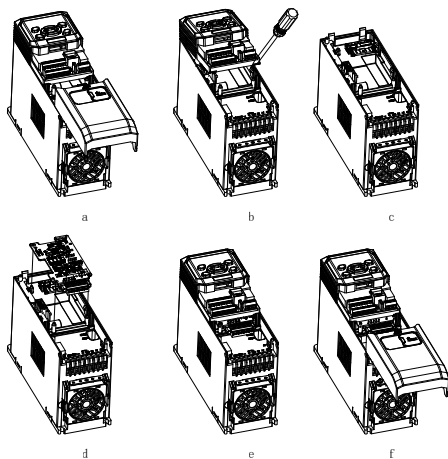

Figure 2-3 Steps of the PG card installation on Position 1
- (1) Make sure the drive is in the power off state. Press the granulated area on the middle-upper part of the lower cover, slide it down with proper force till the cover is taken off from the drive, as shown in Figure 2-3-a.
- (2) Use a small-size straight screwdriver to pry open the two spring snaps that connect the bottom of the operating panel with the drive, and take off the operating panel, as shown in Figure 2-3-b and Figure 2-3-c.
- (3) Mount the PG card: hold the card with the terminal block pointing downward, align the three location holes with the location columns on the drive, and press the PG card downward with proper force to secure it by buckling the four spring snaps, as shown in Figure 2-3-d.
- (4) Align the spring snaps of the operating panel, press the panel downward with proper force to secure it by buckling the spring snaps; align and slide the lower cover till it is buckled in place, as shown in Figure 2-3-e and Figure 2-3-f. The installation of the PG card is then completed.